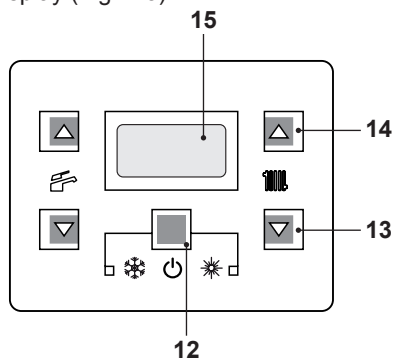

Fig. 7.5
- Press the 12 key for 2 seconds until both  and  symbols appear on the display (Fig. 7.5).
- Switch off the boiler by pressing the 12 (Fig. 7.5) key for 2 seconds until the  symbol appears on the LCD display (Fig. 7.4).